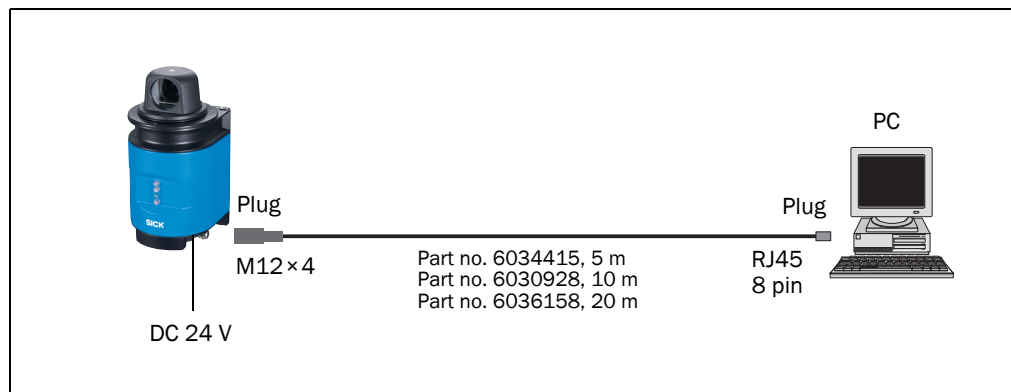

Fig. 22: Ethernet connection
- Connect the PC to the NAV340 using the Ethernet cable (see fig. 22 on page 40)